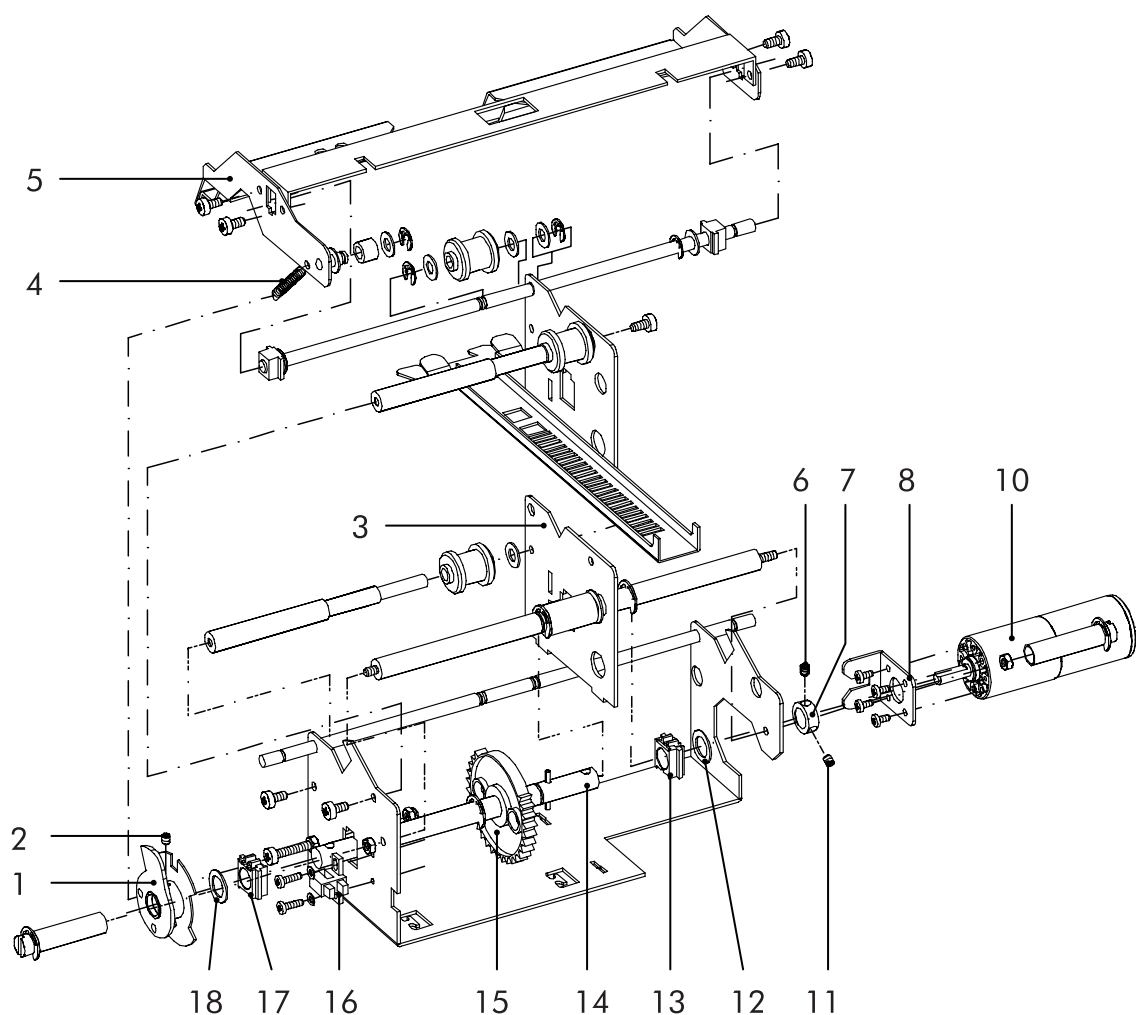

figure 6.3
Disconnect the wiring of the pulse disc detector assy. 1 (see also figure 6.3, item 16).
Refer to **figure 6.3**
Refer to figure 6.3